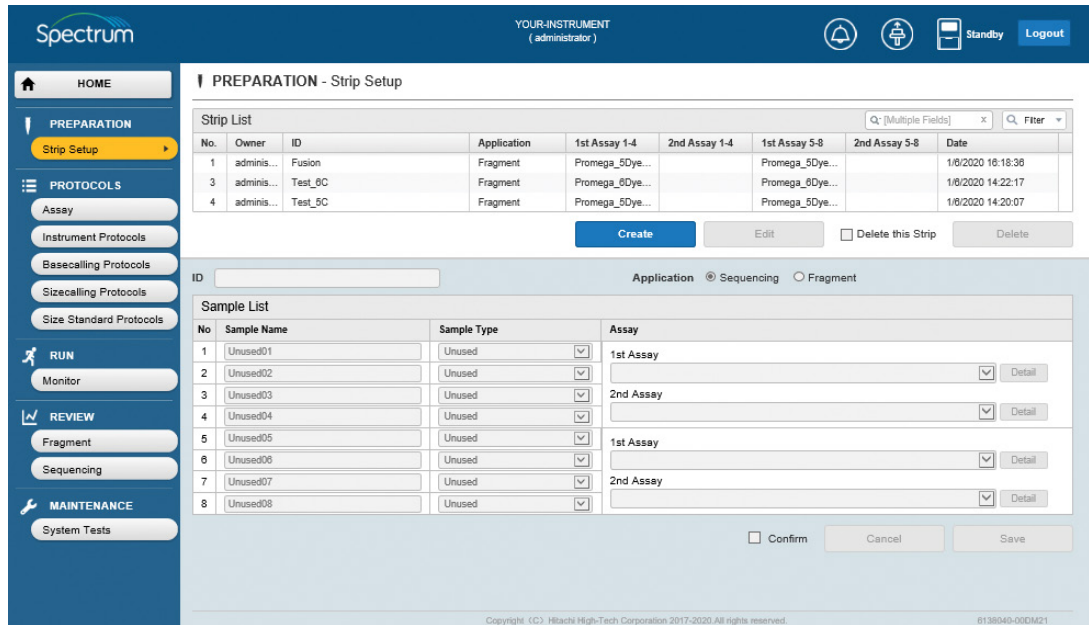

Figure 20. Searched and filtered strips.
- The strips that meet the desired search and filter parameters are displayed at the top of the 'Strip List' (Figure 20).